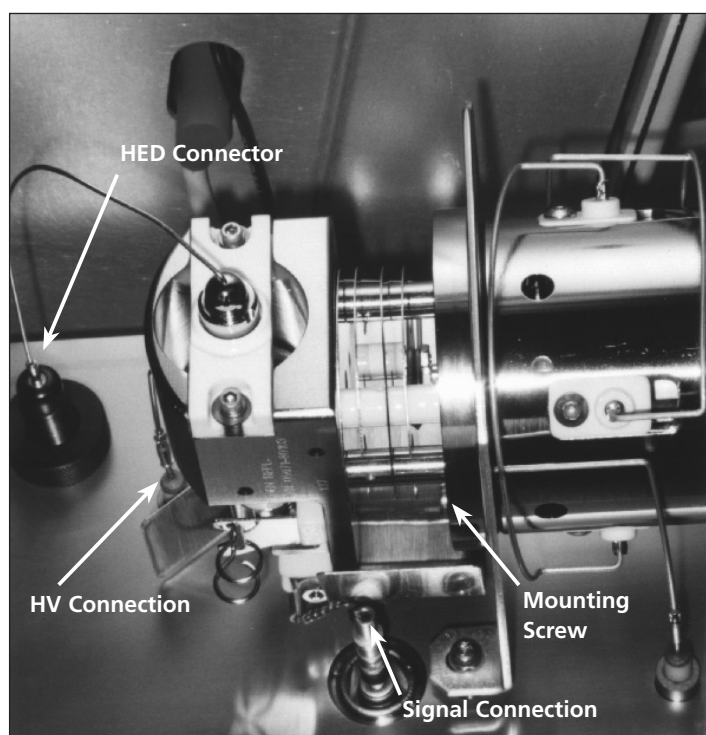

Figure 1: Disconnecting the originally installed multiplier.
1. Follow normal procedures to release chamber vacuum (refer Agilent Technologies (HP) manual)
6. The originally installed multiplier has 4 electrical connections and is attached with 2 mounting screws. (See figure 1). While wearing clean gloves, carefully disconnect each of the electrical connections by hand. They each use push-on connectors and must be disconnected at the chamber door end of the leads.